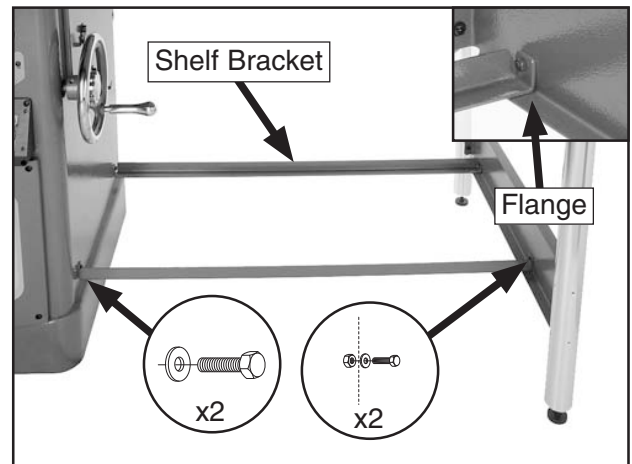

Figure 36. Shelf brackets installed.
10. Place the shelf brackets between the cabinet and support legs, and fasten with (4) M6-1 x 12 hex bolts, (4) 6mm flat washers and (2) M6-1 hex nuts, as shown in **Figure 36**.